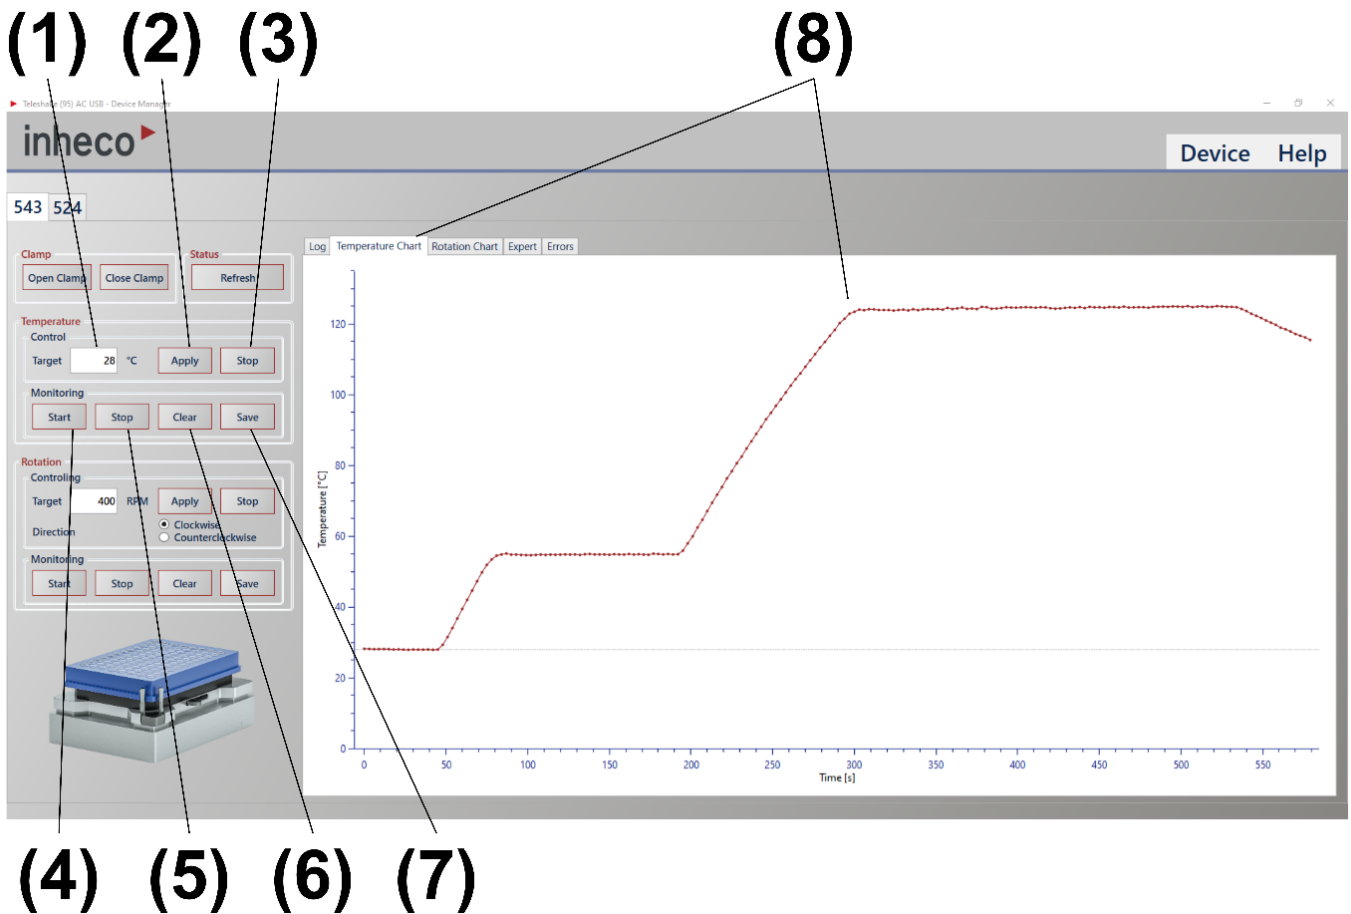

Figure 4: Temperature control (1-3), temperature monitoring (4-7), and temperature chart (8).
Updating the status of the device can be achieved by clicking the "Refresh" (1) button (Figure 4). This is a helpful function to resynchronize the device with the "Device Manager", e.g. after a power loss has occurred that was not noticed by the user. Status messages as well as any errors will be presented in the "Log" (2) tab.